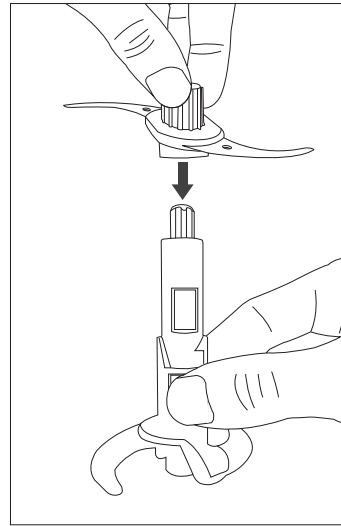

Figure 3
- To assemble both Blade Assemblies, always hold the lower Chopping Blade Assembly by the lower rectangular indentations on the Shaft. Hold the Upper Blade Assembly by the ridged plastic above the blade (see Figure 3).